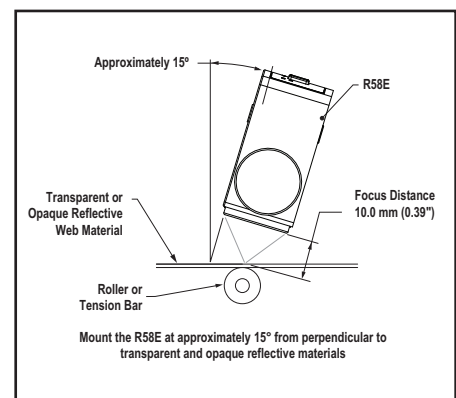

Figure 8. Mounting for sensing opaque reflective and transparent materials
- When sensing a registration mark on a reflective (shiny) material, mount the R58E at an angle which places the lens centerline at approximately 15° off perpendicular to the material's surface (Figure 8). This "skew angle" will minimize strong direct reflections (which tend to overwhelm the sensor), and allow the sensor to discern the relatively small optical contrast offered by differences in colors.
- Clear materials are poor reflectors of light. When sensing a mark printed on a clear material (e.g., a clear poly web), position a reflective surface directly behind the clear material to return light to the R58E. The printed mark, regardless of its color, then becomes the dark condition, as it blocks the light from reaching the reflective surface. Most clear materials are also shiny; it is important to include a 15° skew angle when sensing clear materials (Figure 8).